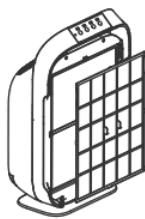

Fig. 2
3. Remove the prefilter (2). The prefilter is held with 8 snap fasteners (Fig. 2).